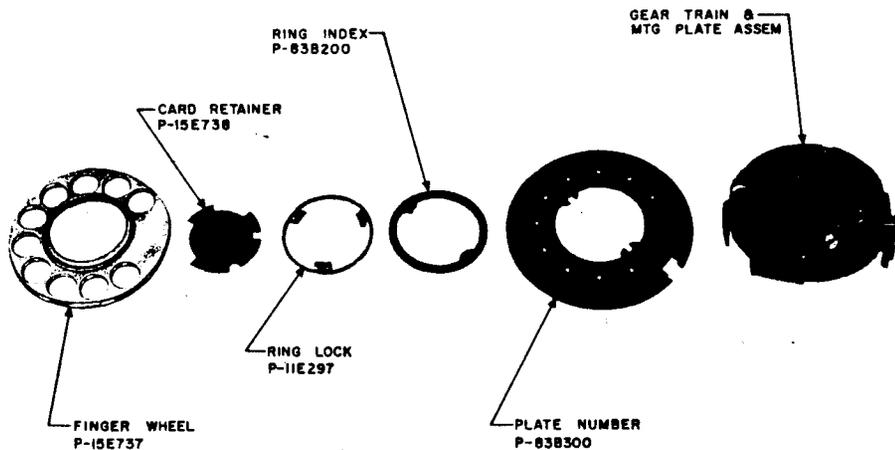

Fig. 23 — 8E Dial, Assembly of Parts
9.05 To change or replace number plate on the 8E dial, follow the same method as the rest of the 8-type dials (see 9.04). One additional part, the ring index, must be removed before the number plate can be removed. (See Fig. 23.) When changing from one color to another, the ring index must also be changed. See Table M for piece part information.
- New colored ceramic number plate with contrasting colored dots (Fig. 23)